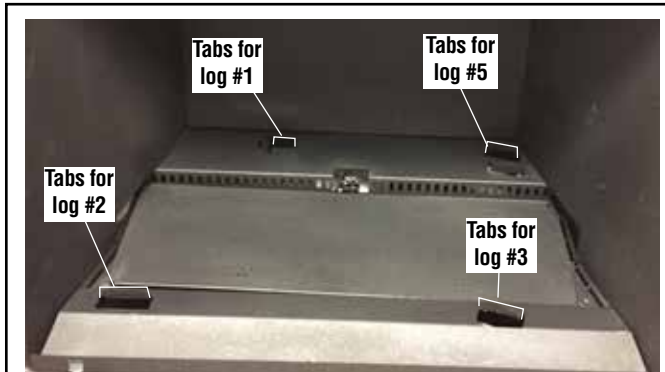

Figure 14A - Locate the log placement tabs, BRMTN27
1. If necessary, remove the glass door (**Page 26**). Locate and bend up Burner Locating Tabs (**Figure 14A or 14B**).
2. Locate the log placement tabs (**Figure 14A or 14B**). Place embers and other media (**see Page 18**).
3. Align the notches in the bottom of the rear log (1) with the left rear locating tabs (**see Figures 14A/B and 15**).
4. Position the left front log (2) on the left front log tab and the left burner locating tab (**See Figures 14A/B and 16**).
5. Position the right front log (3) on the right front locating tab and right burner locating tab (**See Figures 14A/B and 17**).
7. Position the right cross log (5) over the right rear locating tab (**see Figures 14A/B and 18**).